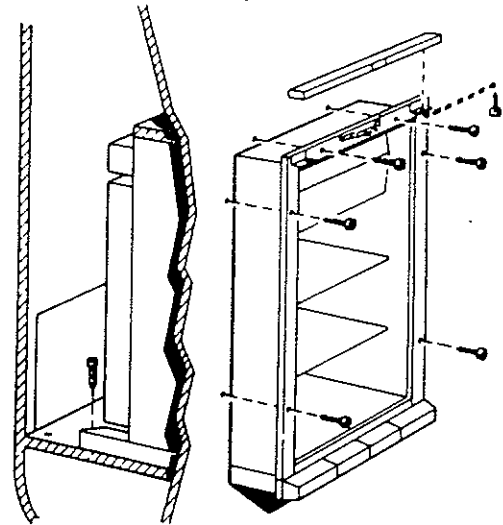

Fig. 9
In the front frame and in the base at the rear of the refrigerator there are holes for screws for fixing the refrigerator in the enclosure. See fig. 9.
Before working on the refrigerator make sure that 120 V A.C. and optional 12 V D.C. leads are disconnected. Shut the gas valve. Unscrew the hexagon nut and gas shut-off valve, see fig. 1 pos. 6. Let the gas valve remain on the gas supply line. Loosen the screws fixing the refrigerator to the enclosure and remove the refrigerator. See fig. 9.